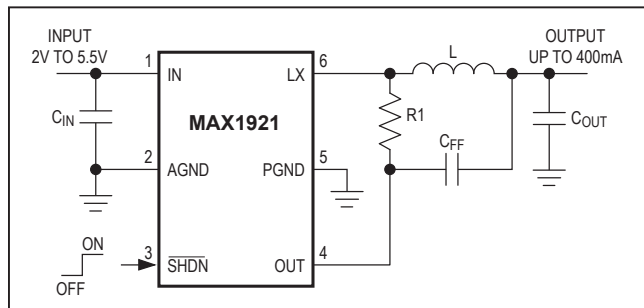
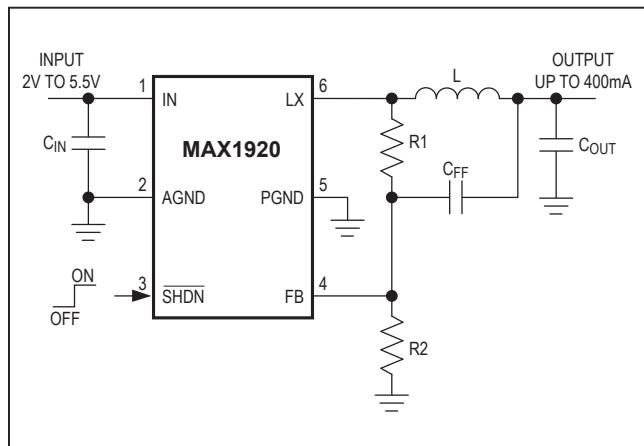

Figure 1. Typical Output Application Circuit (MAX1921)
Figure 2. Typical Application Circuit (MAX1920)
( $C_{IN} = 2.2\mu F$  ceramic, Circuit of Figure 1, components of Table 1, unless otherwise noted.)
( $C_{IN} = 2.2\mu\text{F}$  ceramic, Circuit of Figure 1, components of Table 1, unless otherwise noted.)
The MAX1920/MAX1921 are optimized for small external components and fast transient response. There are several application circuits (Figures 1 through 4) to allow the choice between ceramic or tantalum output capacitor and internally or externally set output voltages. The use of a small ceramic output capacitor is preferred for higher reliability, improved voltage-positioning transient response, reduced output ripple, and the smaller size and greater availability of ceramic versus tantalum capacitors.
Figures 1 and 2 are the application circuits that utilize small ceramic output capacitors. For stability, the circuit obtains feedback from the LX node through R1, while load transients are fed-forward through CFF. Because there is no D.C. feedback from the output, the output voltage exhibits load regulation that is equal to the output load current multiplied by the inductor’s series resistance. This small amount of load regulation is similar to voltage positioning as used by high-powered microprocessor supplies intended for personal computers. For the MAX1920/MAX1921, voltage positioning eliminates or greatly reduces undershoot and overshoot during load transients (see the *Typical Operating Characteristics*), which effectively halves the peak-to-peak output voltage excursions compared to traditional step-down converters.
**Table 1. MAX1921 Suggested Components for Figure 1**
For convenience, Table 1 lists the recommended external component values for use with the MAX1921 application circuit of Figure 1 with various input and output voltages.
The output capacitor,  $C_{OUT}$ , may be either ceramic or tantalum depending upon the chosen application circuit (see Figures 1 through 4). Table 3 lists some suggested capacitor suppliers.
For ceramic  $C_{OUT}$ , use the application circuit of Figure 1 or Figure 2. Calculate the minimum capacitor value as:
When using the application circuit of Figure 1, the inductor’s series resistance causes a small amount of load regulation, as desired for a voltage-positioning load transient response. Choose R1 such that VOUT is high at no load by about half of this load regulation. The simplified calculation is:
When using the application circuit of Figure 2, the inductor’s series resistance causes a small amount of load regulation, as desired for a voltage-positioning load transient response. Choose R1 and R2 such that VOUT is high at no load by about half of this load regulation: